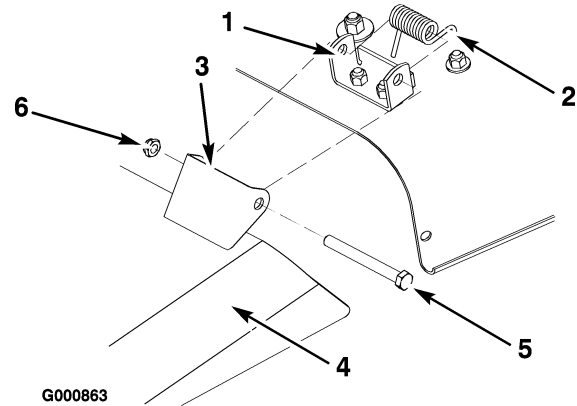

Figure 52
1. Remove the locknut, bolt, and spring holding the deflector to the mower brackets (Figure 52). Remove the damaged or worn grass deflector.
2. Place the springs into the brackets on the mower with the hooked ends over the raised back (Figure 52).
3. Align the grass deflector with the holes in the brackets and the spring straight ends in the space under the hinge and above the deflector (Figure 52).